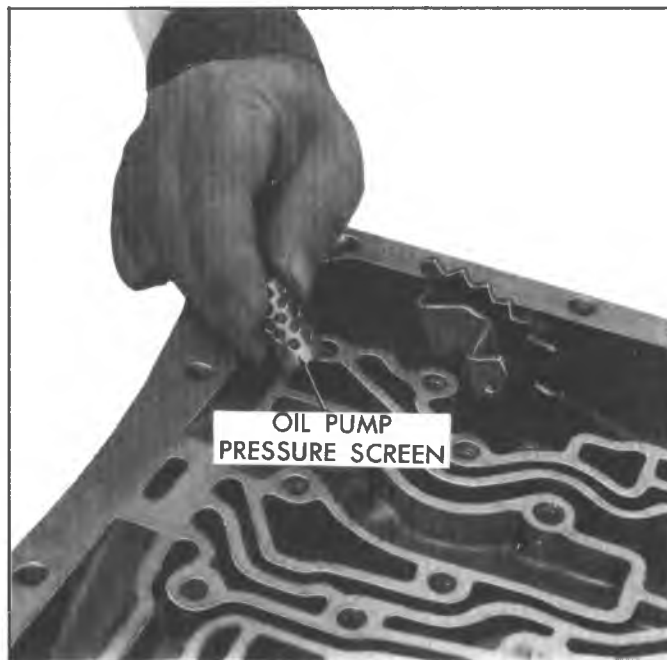

Fig. 16N--Removing Oil Pump Pressure Screen
8. Remove oil pump pressure screen from oil pump pressure hole in case (fig. 16N).